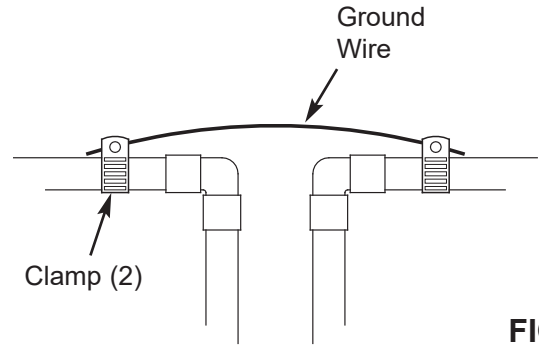

FIG. 5
- Install a #4 copper wire across the removed section of main water pipe, securely clamping at both ends (See Figure 5). Parts not included.